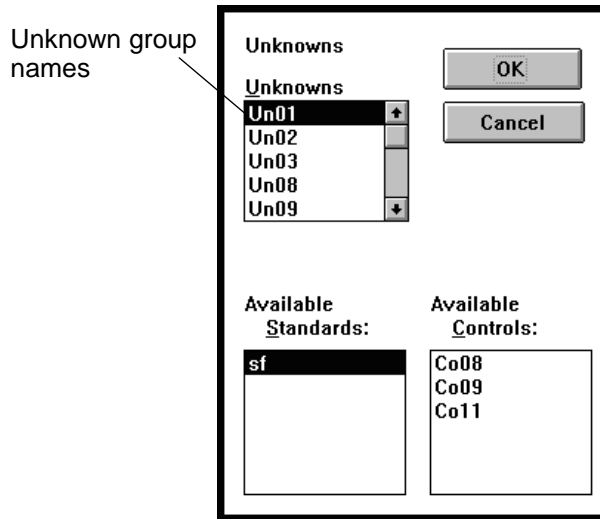

Figure 2-8 Unknowns Dialog Box
- Click **Unknowns**. The Unknowns dialog box appears (Figure 2-8).